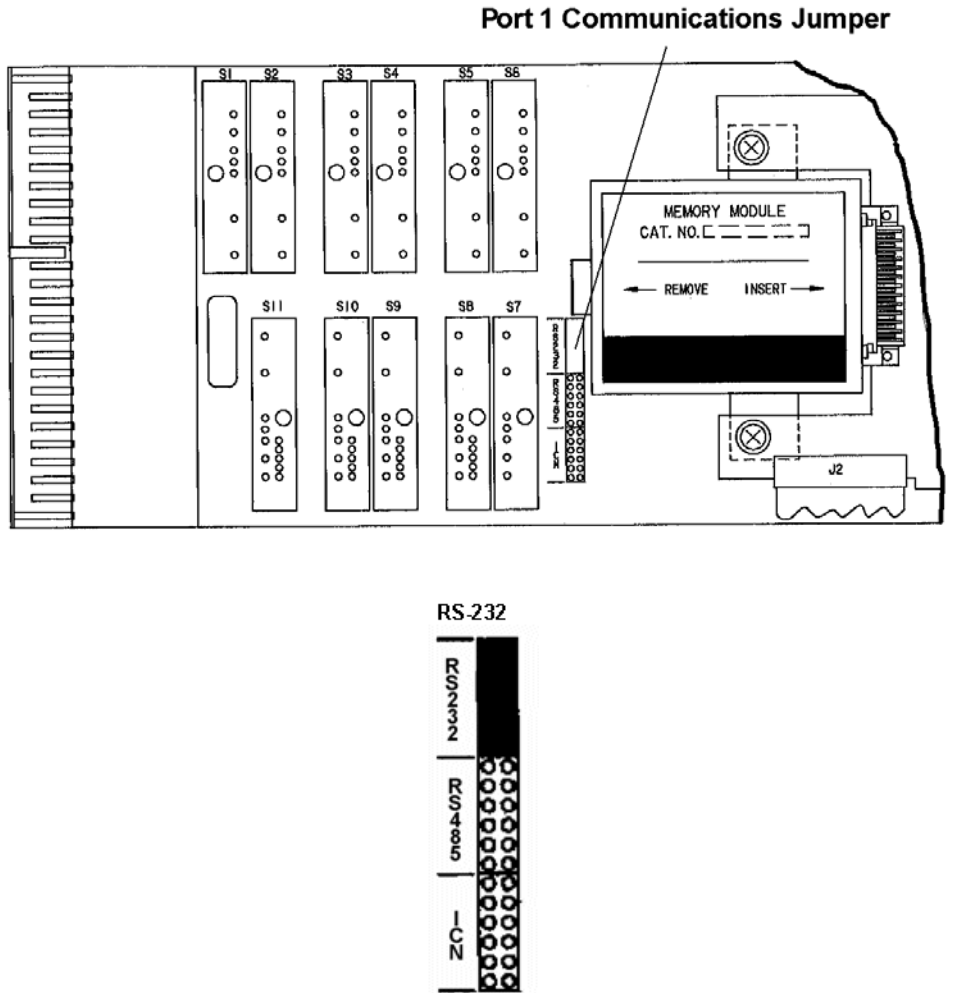

Figure 5-2. Locations for Port 1 Communications Jumper – Built-in Circuit
3. For communication port 1, a communications jumper on the carrier board, Figure 5-2, is positioned to select RS-232 Modbus communication for the built-in circuits, to allow connection of a portable computer through the front panel.
- The communication jumper, Figure 5-2, must be positioned for RS-232 communication.